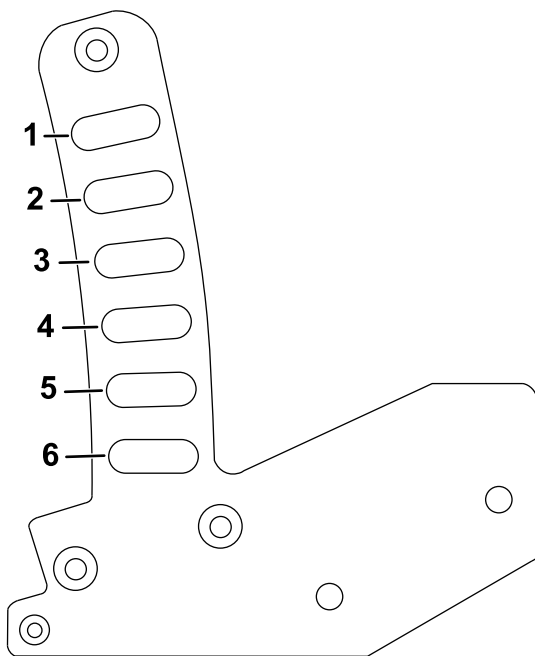

**Figure 21**
3. Pull out the pins from the plates on the sides of the attachment (Figure 21).